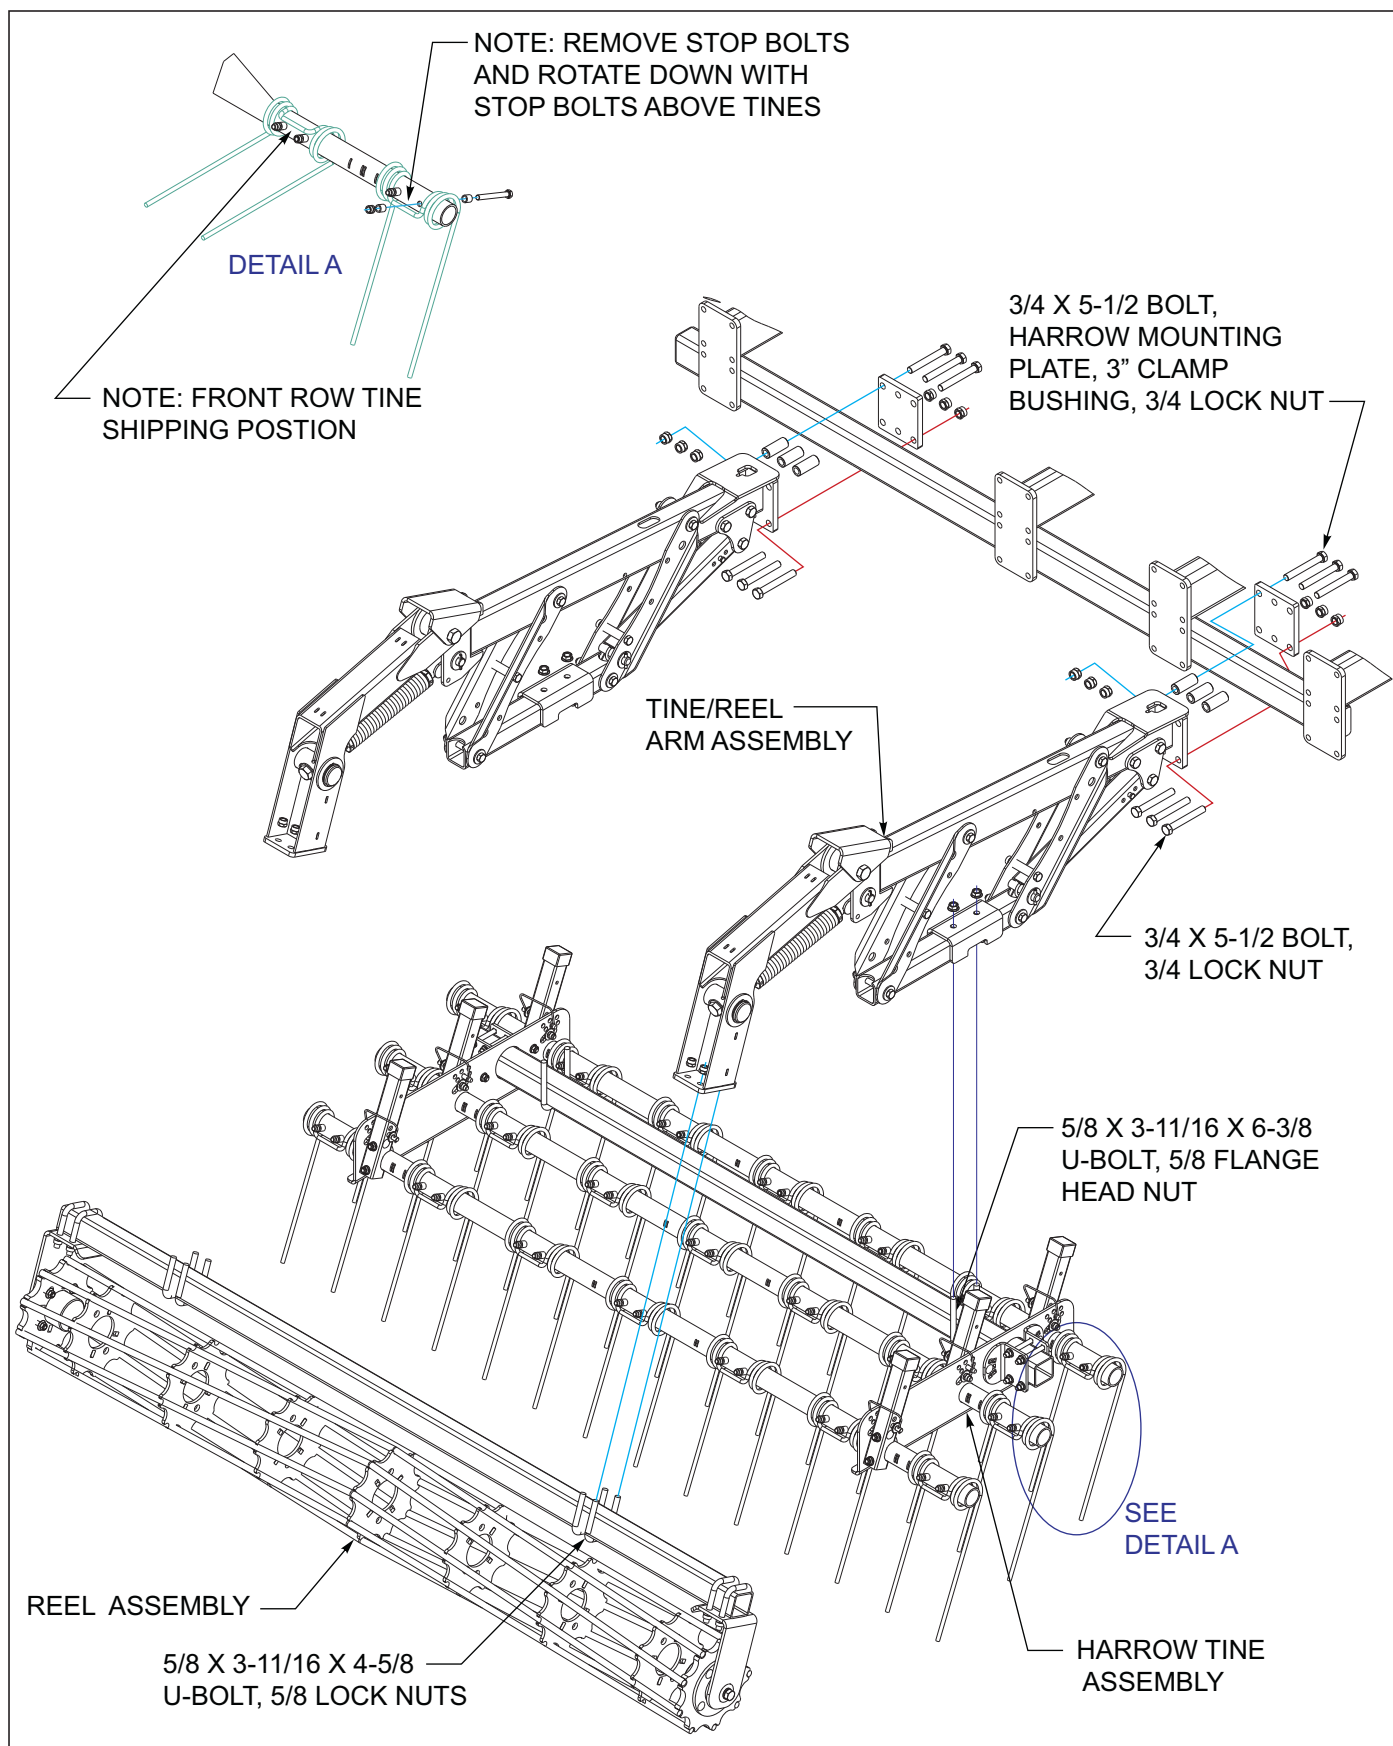

Figure 3-62: 3 Row Coil Tine and Reel Harrow Installation
1. Attach the tine/reel arm assemblies to the rear tube of the center and wing frames using harrow mounting plates, 3/4 x 5-1/2 bolts, clamp bushings and 3/4 lock nuts **See Figures 3-62**. Clamp bushings are installed on the top mounting bolts.
3. Front row tines are assembled with the tines above the stop bolts to prevent damage when shipping **See Figure 3-62** Detail A. Remove front tine bolts and reinstall, with stop bolts above tines.